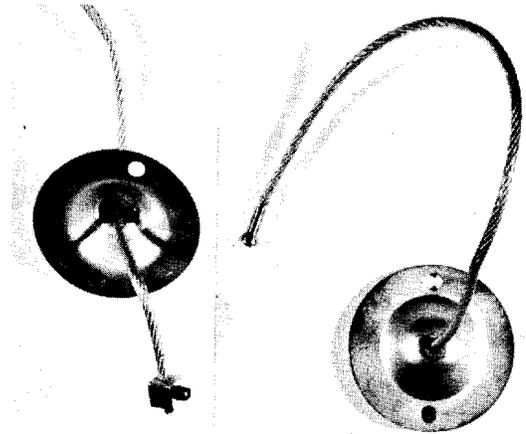
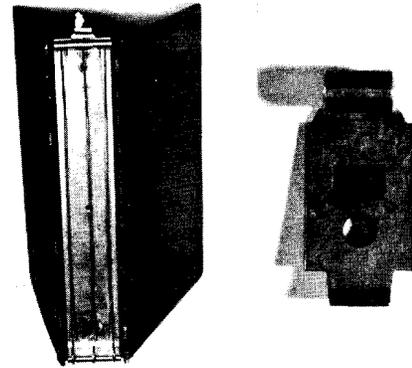

Figure 1
Figure 5
2.01 Figure 1 shows the directory cable hanger, aircraft type, used for installation of telephone directory binders inside or outside. Figure 5 shows the directory binder hinge-type bracket used with the outdoor directory binder, for booth installations.
(b) Lock the binder hinge bracket in place by tapping the bracket, with a hammer, until the bracket snaps in place, Figure 5.